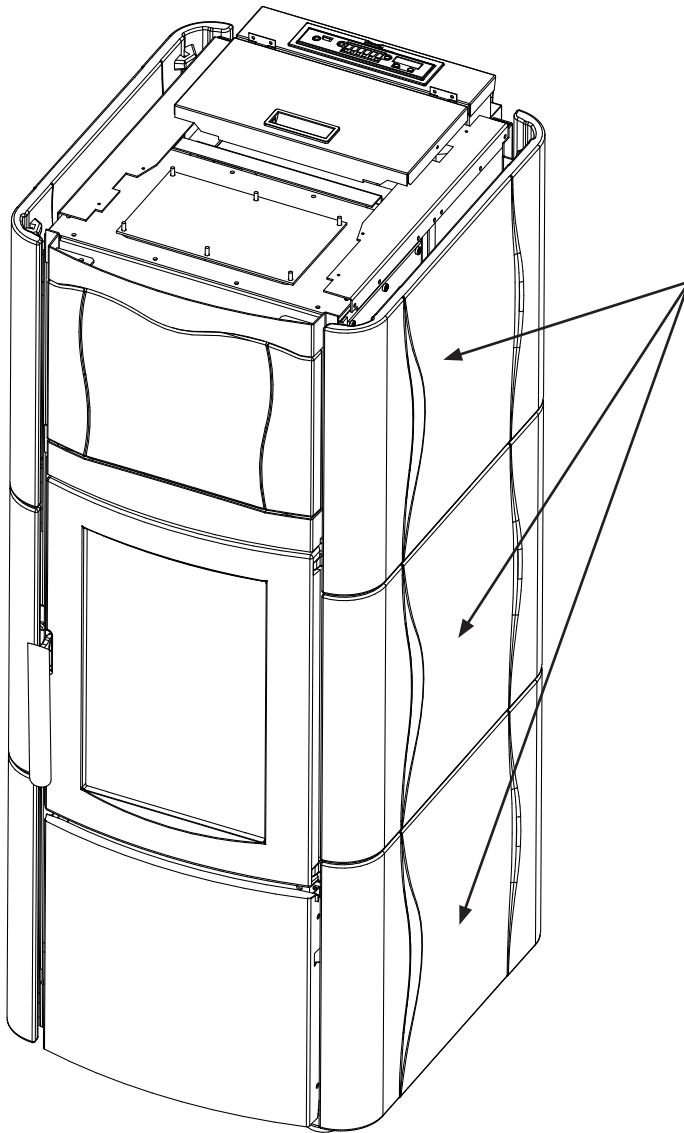

figure 10.3
1. press the lower door downwards, turn towards the outside (figure 10.3)